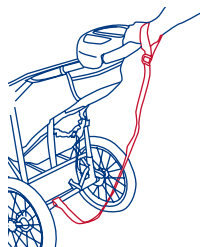
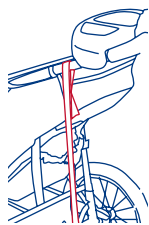

Fig. 20
Fig. 21
- **SAFETY WRIST STRAP:** Always connect the safety strap to either wrist when jogging. This strap will keep the stroller from rolling away in the event that you trip while running. (Fig. 20) The safety strap must remain connected to the rear lower frame cross member at all times. This location is intended to prevent the stroller being tipped backward in the event that you do fall to the ground. The safety strap includes a Velcro attachment for storage, on the left side of the stroller, when not in use. (Fig. 21)